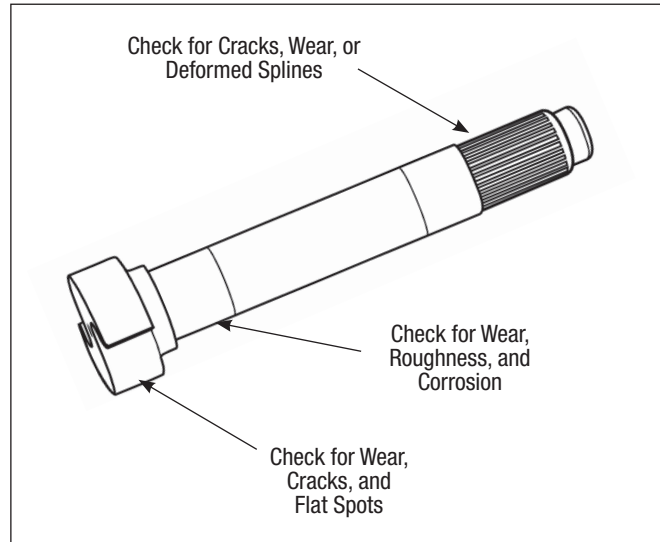

Figure 38 – Camshaft Inspection
1. Refer to Figure 38. Check the spline end for cracks, worn, or deformed splines. Replace as necessary.